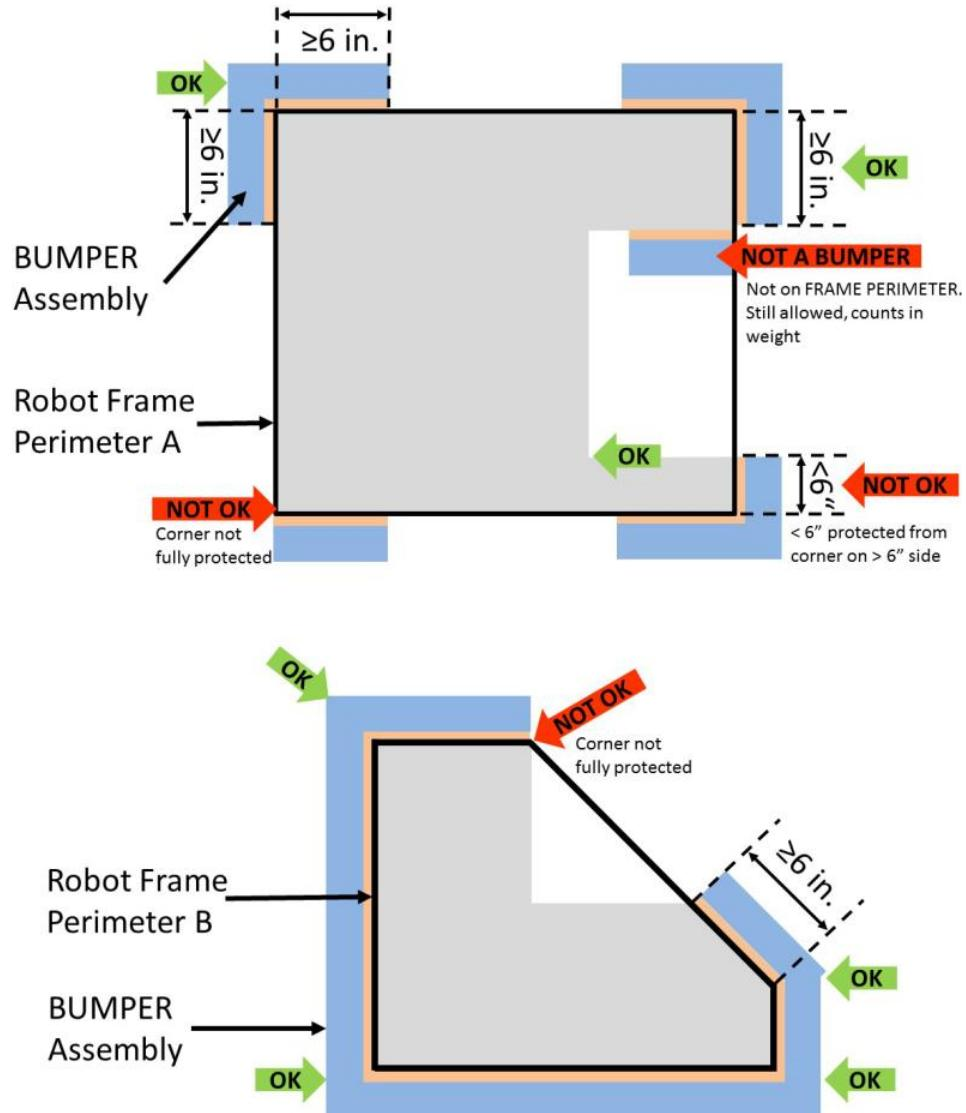
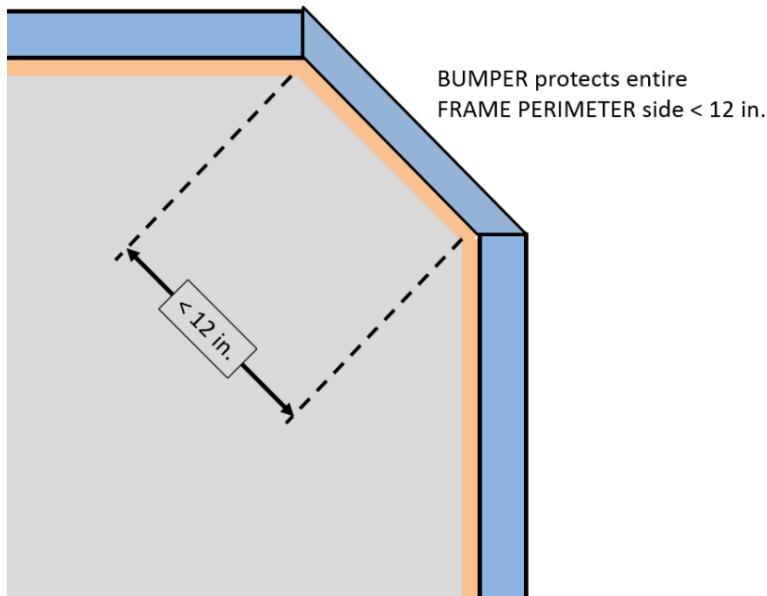

Figure 9-2 BUMPER corner examples
Figure 9-3 BUMPER around full side/corner.
**R17.** ROBOTS are required to use BUMPERS to protect all outside corners of the FRAME PERIMETER. For adequate protection, at least 6 in. (~16 cm) of BUMPER must be placed on each side of each outside corner (see Figure 9-2 BUMPER corner examples) and must extend to within  $\frac{1}{4}$  in. (~6 mm) of the FRAME PERIMETER corner. If a FRAME PERIMETER side is shorter than 12 in. (~31 cm), that entire side must be protected by BUMPER (see Figure 9-3). A round or circular FRAME PERIMETER, or segment of the FRAME PERIMETER, is considered to have an infinite number of corners, therefore the entire frame or frame segment must be completely protected by BUMPER(S).
The dimension defined in R17 is measured along the FRAME PERIMETER. The portion of the BUMPER that extends beyond the corner of the FRAME PERIMETER is not included in the 6 in. (~16 cm) requirement. See Figure 9-2.